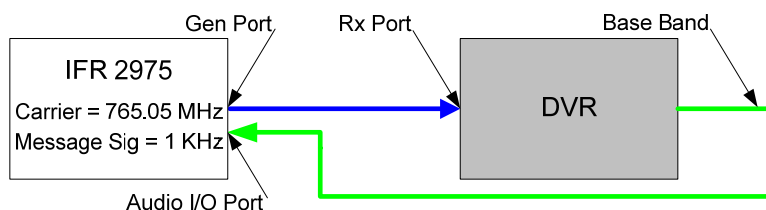

Figure 13: Receiver THD+N and SINAD Block Diagram
1. Cable up the IFR 2975 to the DVR's Rx port as shown in Figure 13.